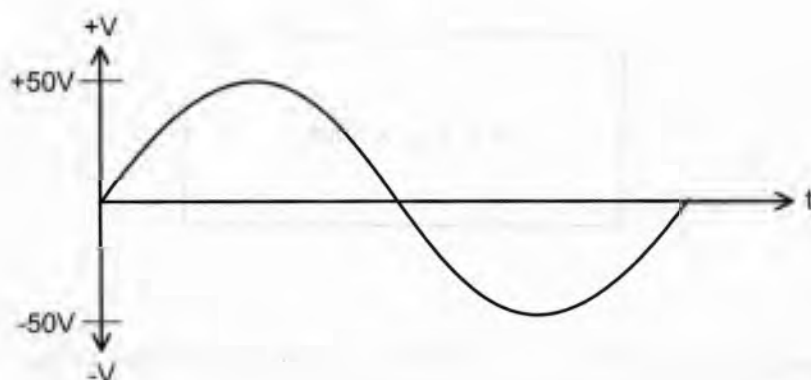

Figure 19
1. Indicate on the sinewave in Figure 19 above the approximate position of the following angles: